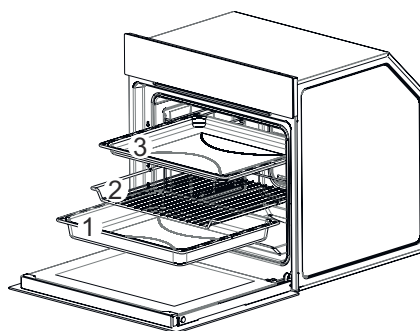

Fig. 17
- Remove the trays and the grill respectively (1-2-3 / Fig. 17).